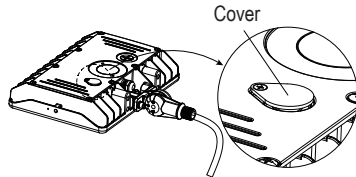

Figure 1
**Step 1:** With the fixture wired to power, locate the CCT adjust button, on the back of the fixture. (Figure 1)